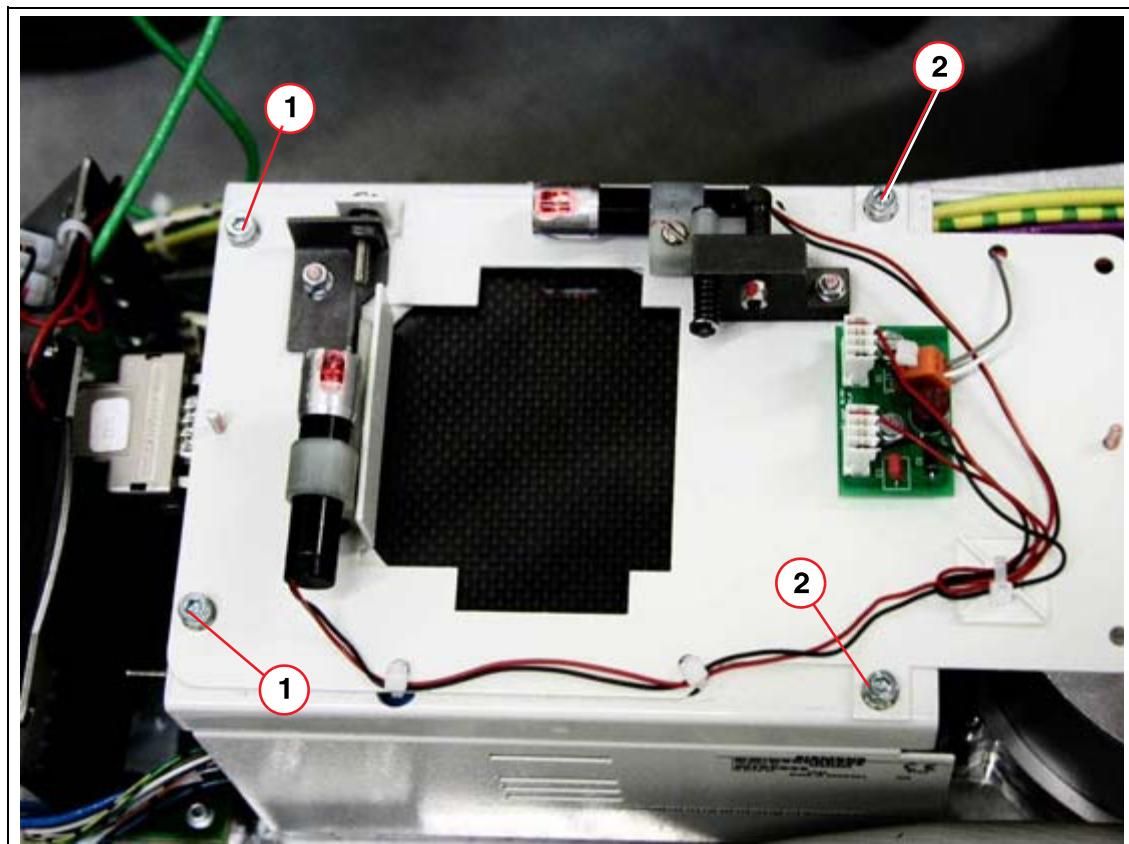

Fig. 4: *Laser_unit*
- Loosen the screw (1/Fig. 4 / p. 11).
- Install the visual localizer as shown in (Fig. 4 / p. 11) and secure it to the POWERPHOS via 4 screws and contact disks (1 und 2/Fig. 4 / p. 11).